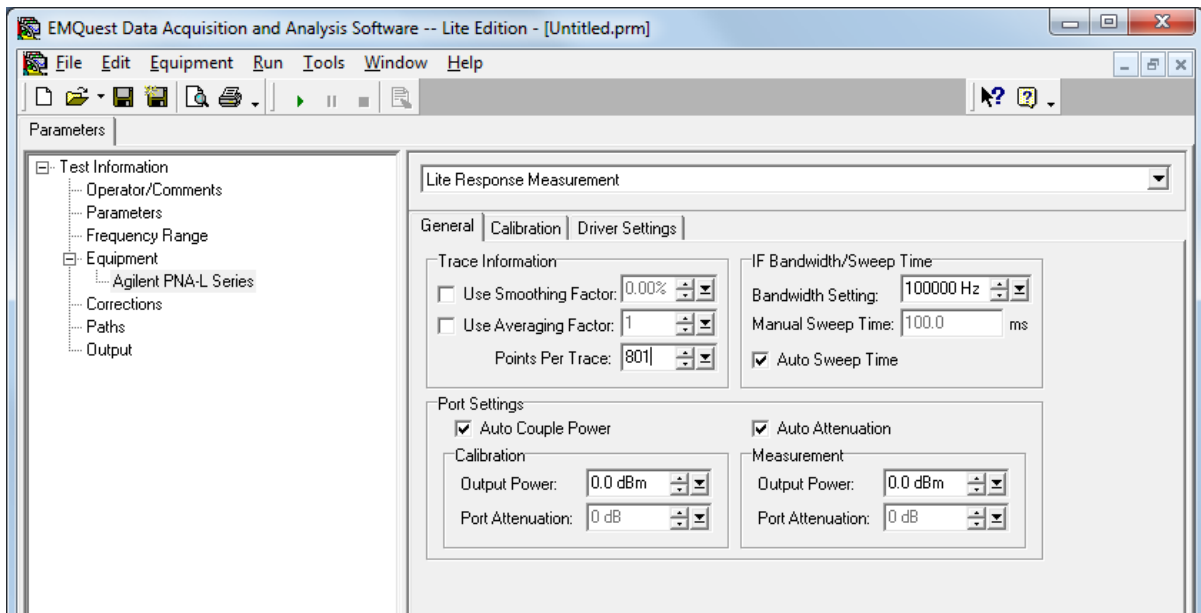

Figure 6. Network analyzer settings.
8. Click on the “+” sign next to the “**Equipment**” to expand the menu tree, and then click on the “**Agilent PNA-L Series**” item. The network analyzer (NA) calibration and other parameters can be specified here. Make sure all settings match those shown in Figure 6 below. Under **Trace Information**, you may smooth the measured data using the functions there. The value in “Points Per Trace” sets the number of frequency points that will be taken within the frequency range selected in STEP 6. The measurement “Output Power” level can be used to select the source power level; this can be adjusted in a second measurement if the noise level is unacceptable. This control should be used with caution to prevent overloading the input, and it is recommended to keep the output power level as low as possible, and never above 15 dBm.